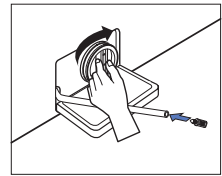

Fig. 19
- Insert the coin-trap cover and screw tight. Fig.19